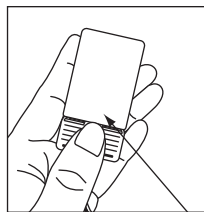

Figure 1.1
- Remove the cover by unclipping it and pulling it out (Figure 1.1)